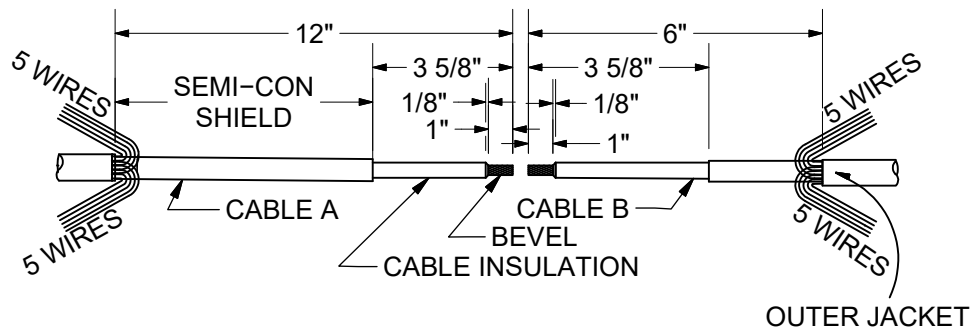

Figure 2
4. For single phase cables train the concentric wires in two bundles each side, five wires per bundle. See Figure 2. For three phase cables train concentric wires in one six wire bundle.
6. Strip cables for splicing per Figure 2, clean cables - DO NOT USE SILICONE SPRAY ON CABLES OR SPLICE BODY. Prior to installing the conector, clean the exposed conductor with a stainless steel wire brush. Some splice kits may contain a small disposable stainless steel wire brush, if so, it should be used. If there is no wire brush in the kit, use one of the stocked stainless steel brushes.